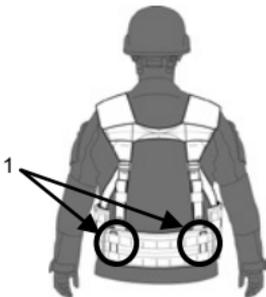

Figure 1. FLC Adjustment Tabs.
5. Reinsert the stiffened strap webbing tabs on the back of the belt in the appropriate location (Figure 1, Item 1), ensuring the stiffened webbing adjustment tabs are positioned the same on each side.